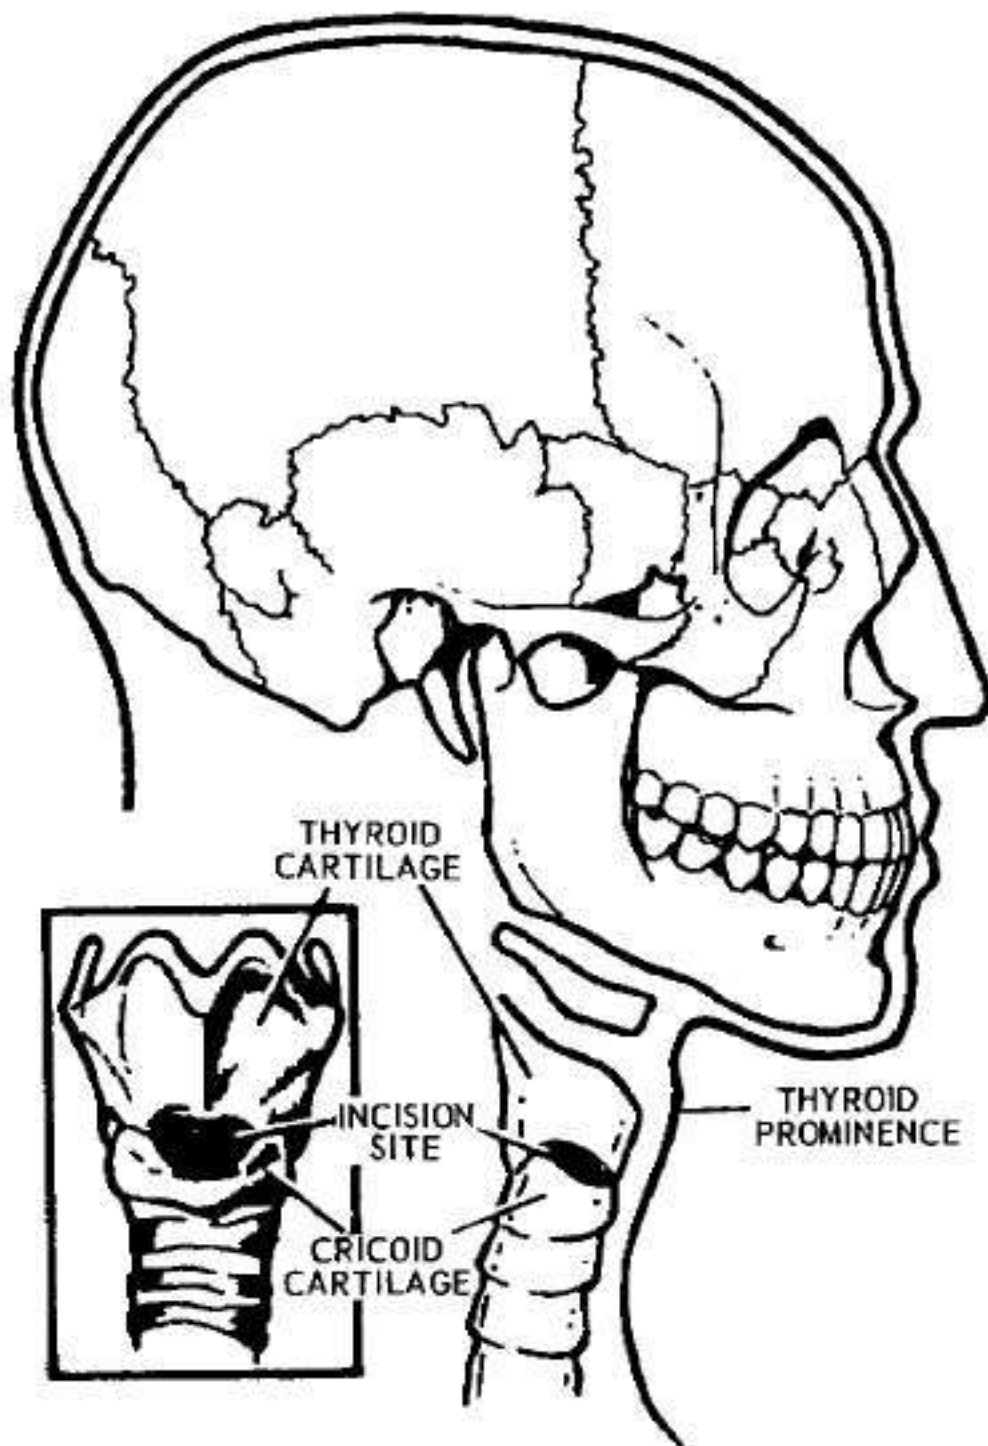

Figure 3-2. Site of incision for cricothyroidotomy.
d. The cricothyroid membrane is the best place to make an emergency surgical airway. It is just beneath the skin in the middle of the front of the neck. It is between the thyroid cartilage ("Adam's apple") just above it and the less prominent (in males) cricoid cartilage below it. See figure 3-2 for location of incision site.